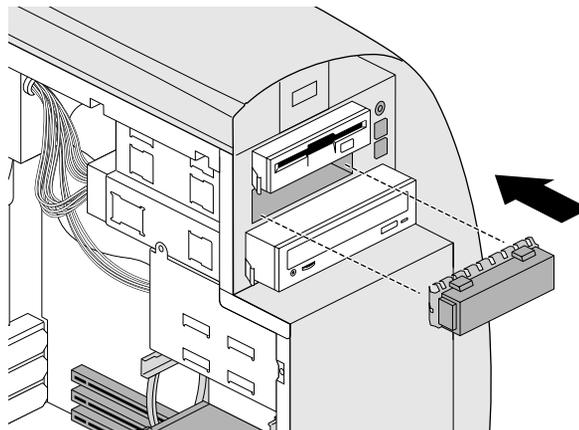

Figure 4-9 Installing the Blank Panel in a Removable Media Drive Bay
7. If you are not reinstalling a drive, install the blank panel in the bay opening, as shown in Figure 4-9.